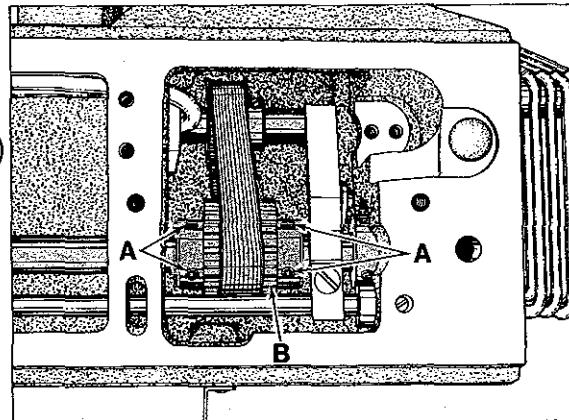
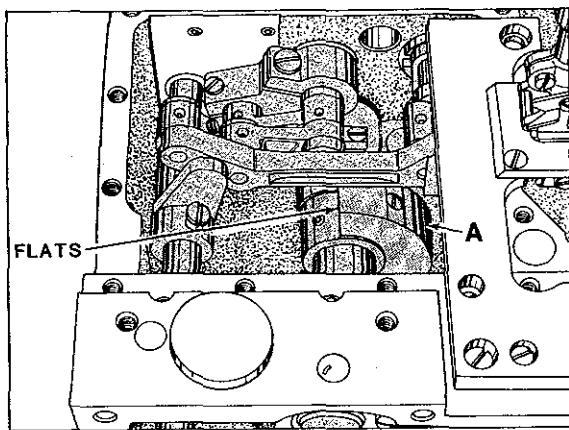

Fig. 4
Fig. 5
While holding handwheel, turn lower mainshaft to position feed crank counterweight (A, Fig. 5) with its FLATS perpendicular to the bottom of machine and facing away from the operator as shown in Fig. 5. Tighten screws (A, Fig. 4) in upper mainshaft sprocket (B).